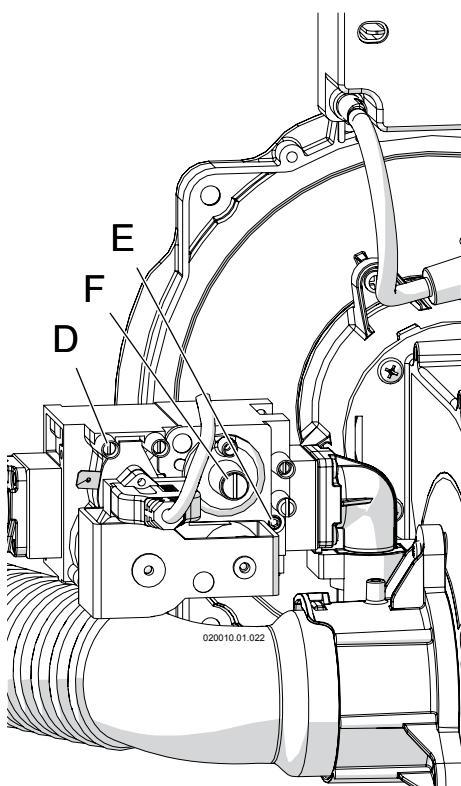

Figure 15-1 Gas valve
3. turn the screw in pressure port "D" shown in Figure 15-1 three turns counterclockwise;
4. connect a manometer with graduations of at least 0.1 in.W.C. (0.25 mbar) to the inlet gas port "D" shown in Figure 15-1 (on unit model 399 to 1000, choose the pressure port "D" from any gas valve present).
3. turn the screw in pressure connection "D" in Figure 15-1, clockwise until snug;
4. check pressure port "D" (Figure 15-1) for any gas leaks;
6. compare the CO₂ reading with the high fire range given in Figure 14-7, making sure to use the range for the gas type in use. If the CO₂ reading is outside the specified range, it must be adjusted operating on the "E" screw of Figure 15-1. Use a 2.5mm Allen Wrench to turn the screw (clockwise to reduce the CO₂ level, counter-clockwise to increase the CO₂ level) in small increments and wait for the CO₂ to stabilize to prevent overshooting the desired value;
- e. compare the CO₂ reading with the high fire range given in Figure 14-7, making sure to use the range for the gas type in use. If the CO₂ reading is outside the specified range, it must be adjusted operating on the "E" screw of Figure 15-1 of the gas valve closer to the burner unit in fire. Use a 2.5mm Allen Wrench to turn the screw (clockwise to reduce the CO₂ level, counter-clockwise to increase the CO₂ level) in small increments and wait for the CO₂ to stabilize to prevent overshooting the desired value;
- f. when CO₂ level match the value of Figure 14-7, seal screw "E" (Figure 15-1) with red paint or nail polish to discourage tampering.